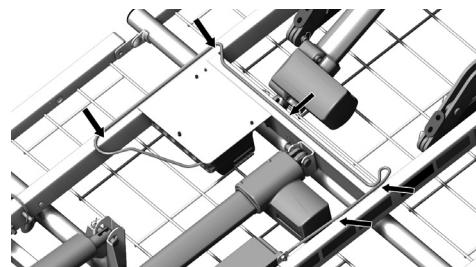

Figure 2
5. Route the cable along the same path as the back actuator cable as shown in Figure 2.